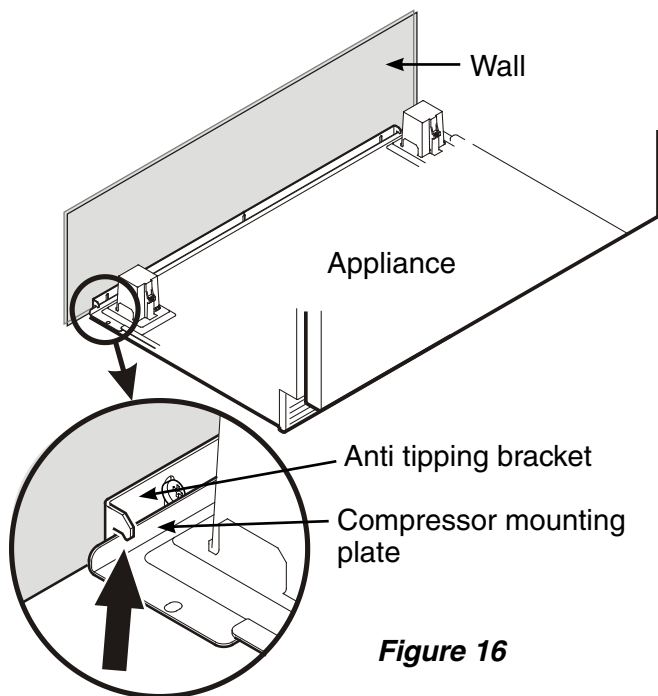

Figure 16
4. Push the appliance slowly to the back wall until the compressor mounting plate makes contact with the anti-tipping bracket (**Figure 16**).
To prevent the appliance from tipping forward the compressor mounting plate must have contact with the anti tipping bracket (**Figure 16**).